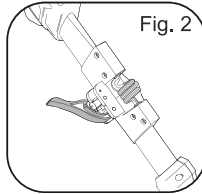

Fig. 2
2. Secure in place using the collapsible handle lock. (Fig. 2)